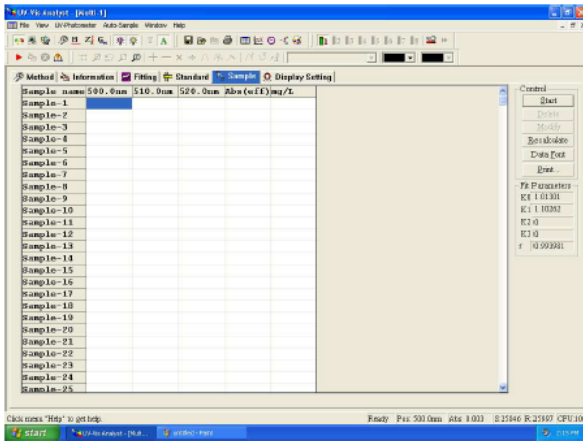

Fig. 4-3
15. Click the sample tab. It will display the following (Fig. 4-3). The control menu contains six buttons: start, delete, modify, recalculate, data font and print.